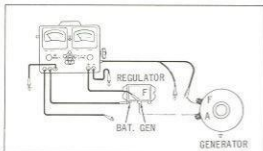

Figure 51-11.
B. TESTER CONNECTIONS (See Fig. 51-11)
D. TESTING CUTOUT RELAY UNIT CLOSING VOLTAGE (Fig. 51-11)